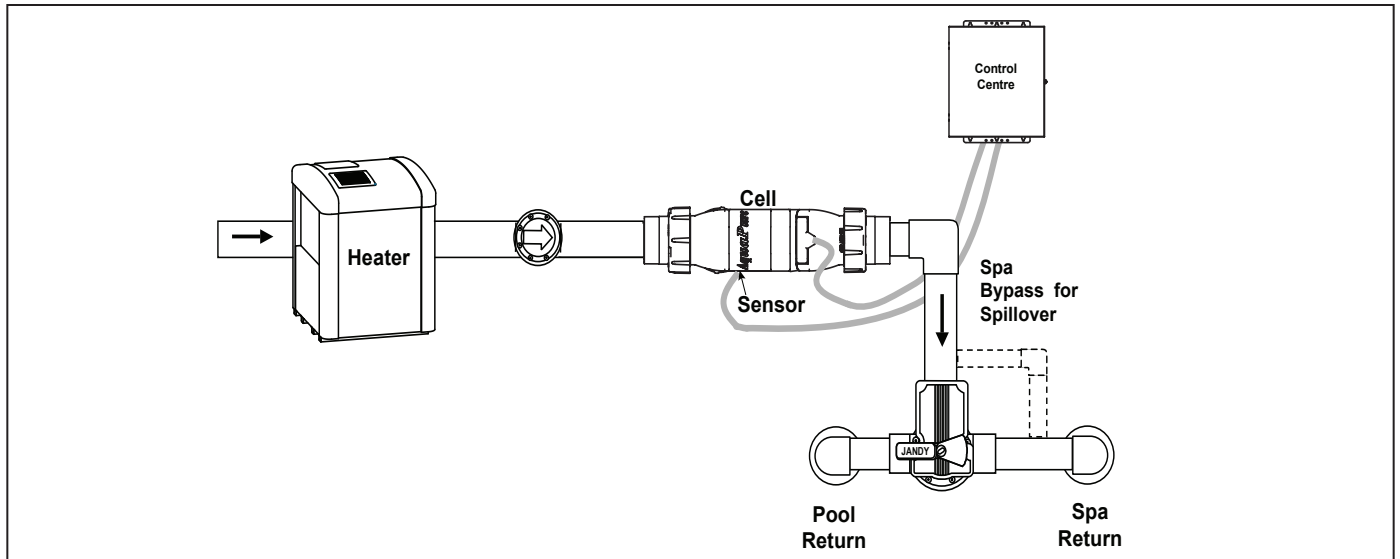

Figure 4. Recommended Plumbing Configuration for Pool/Spa Combination Systems
The preferred installation is that the cell and sensor are plumbed in the common line after (downstream) the heater. The sensor is designed to be plumbed into the 3-port cell. Figure 4 illustrates the recommended plumbing configuration, which results in the most reliable operation.
4. Locate a suitable section of pipe, approximately 432 mm (17 inches) long or follow the recommended plumbing diagrams as shown in Figures 4 and 5. The flow/temp/salinity sensor cable and cell DC cord **must** be able to reach from the power centre to this section of pipe.